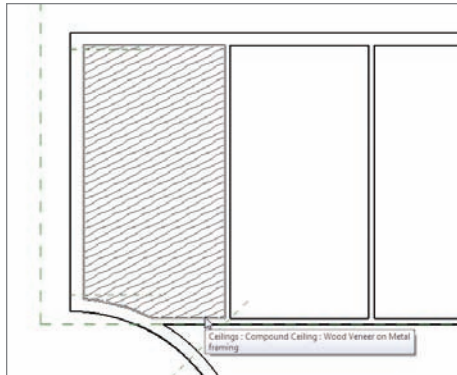

FIGURE 9.21 The cherry-veneered plywood ceiling
19. Place the ceiling in the room shown in Figure 9.21.